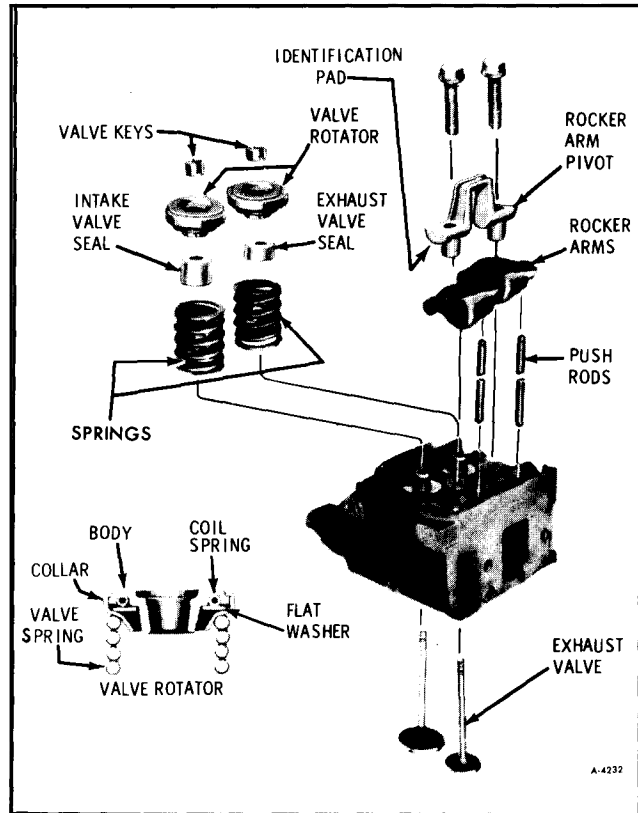

Figure 21—Cylinder Head—Exploded View
ROCKER ARM ASSEMBLIES (FIGURE 21)
3. Position rocker arms, pivots and bolts on cylinder head as shown in Figure 21.
6. Remove rocker arm bolts, pivots, rocker arms and push-rods as shown in Figure 21.